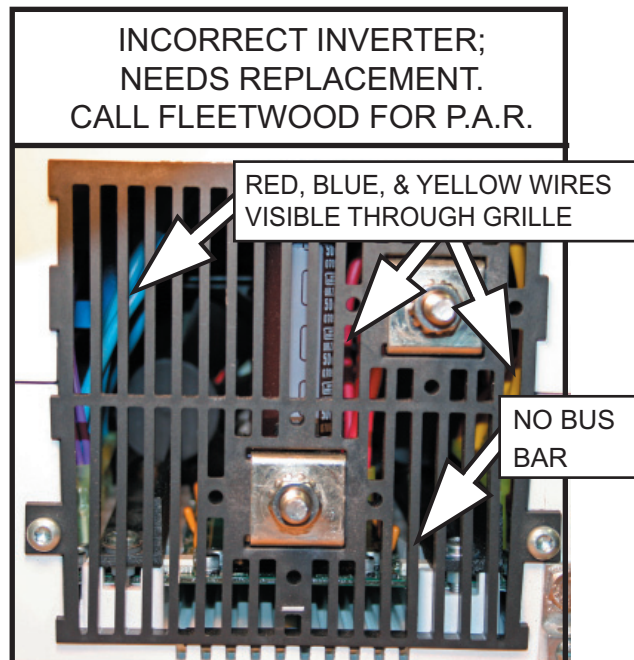

Figure 2
- B. If red, yellow, and blue wires are visible, AND a bus bar is NOT visible, as shown in Figure 2, the inverter must be replaced. Contact Fleetwood Dealer Technical Support for a Prior Authorization Request (P.A.R.), then proceed with the Correction, "Replacing the Magnum Inverter", on Page 3.